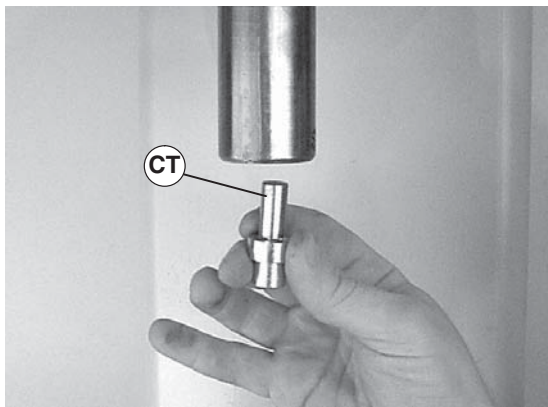

Figure 53
2. Install bearing insertion tool (part # 25-10*) (Figure 53, item CT) into arbor press or similar device.